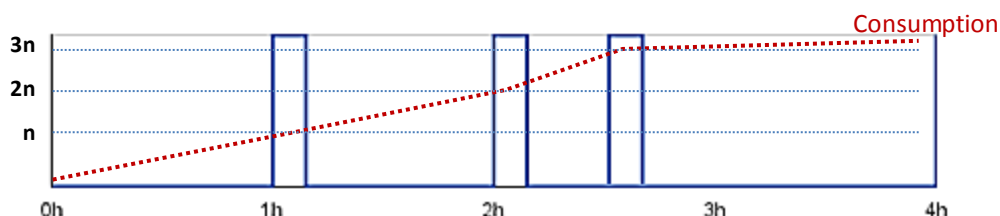

Figure 5. Pulse Reception.
The scenario shown in Figure 5 represents a sample case: KCI 4 S0 will be receiving discrete pulses at certain instants, as the energy, water or gas consumption increases. Assuming “n” energy (or volume) units per pulse (that is, a pulse frequency of “1/n”) and that the power / flow estimation is required to be re-calculated at the end of every hour, it is possible to proceed the following:
*In Figure 5, assuming that the power has been parameterised to be sent to the bus only cyclically every two hours, the value at instant  $t = 2h$  will depend on the calculation method. For “**average**”, the estimated power at  $t = 2h$  will be “ $n / 2$ ” (one pulse divided by two hours); on the other hand, for “**instantaneous**”, the estimated power at  $t = 2h$  will be “ $n$ ” (one pulse divided by one hour).*